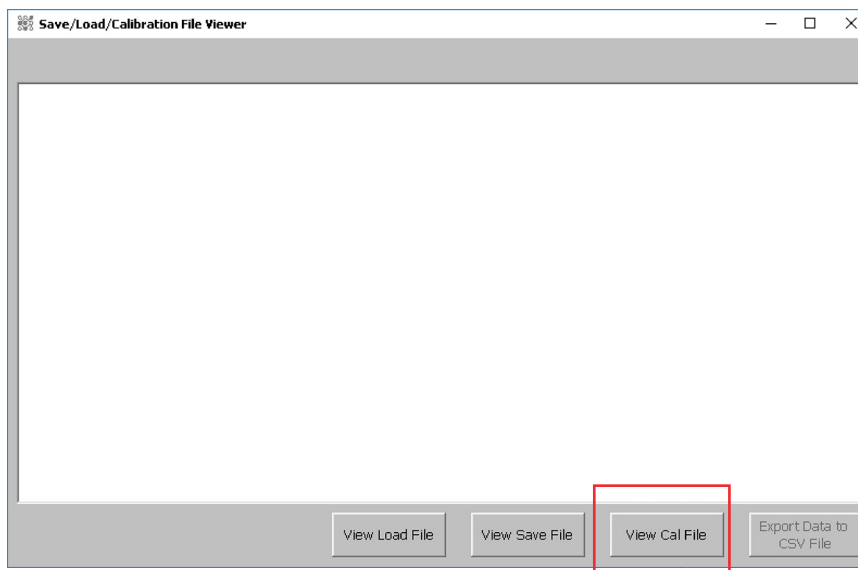

Figure C.12. View Cal File button on the Save/Load/Calibration File Viewer.
3. Click **View Cal File** (Figure C.12).